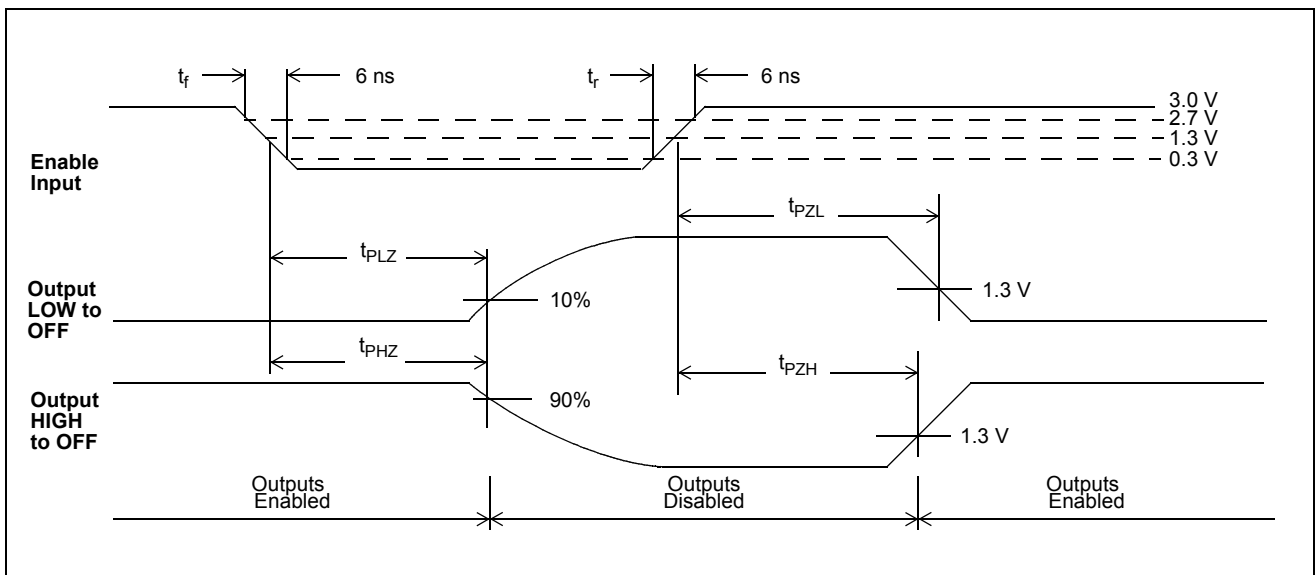

Figure 19 - Three State Outputs and Enable Timings
**AC Electrical Characteristics†** - Voltages are with respect to ground ( $V_{SS}$ ) unless otherwise stated. (Refer to Figure 19)